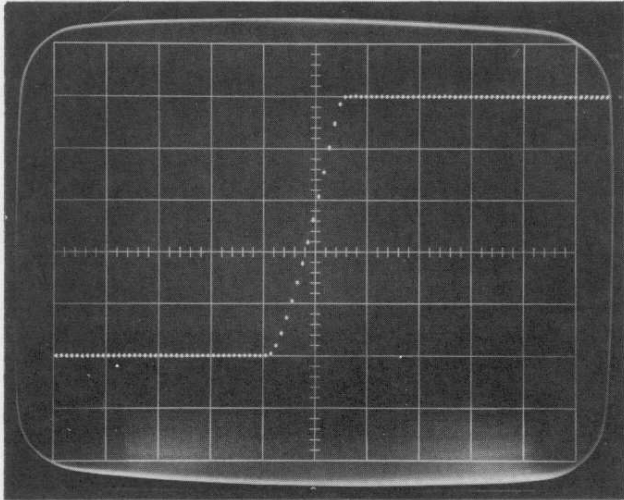

Fig. 6-11. Typical 5 div display of step 12f.
f. Connect the cable between the Type 284 and the sampling head input. Set the sampling sweep unit for a sweep rate of $0.5 \mu\text{s}/\text{div}$. Set the Type 284 to deliver 10 μs square waves at 1.0 volt. Obtain a display similar to Fig. 6-11, normally triggered (not double triggered).